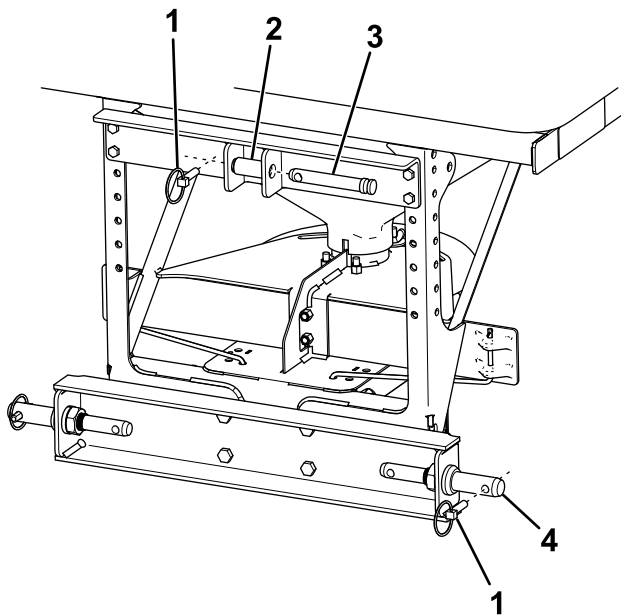

Figure 4
2. Slowly drive the tractor up to the spreader and lower the lift arms so that they align with the lift pins (Figure 4).
3. Slide the tractor lift arms onto the lift pins and secure them with 2 quick pins (Figure 4). Use the inner part of the lift pins for category 1 vehicles and the outer part of the lift pins for category 2 vehicles.
4. Lean the spreader back and secure the upper weldment to the tractor mast using the appropriate hardware (Figure 4) for your vehicle category: